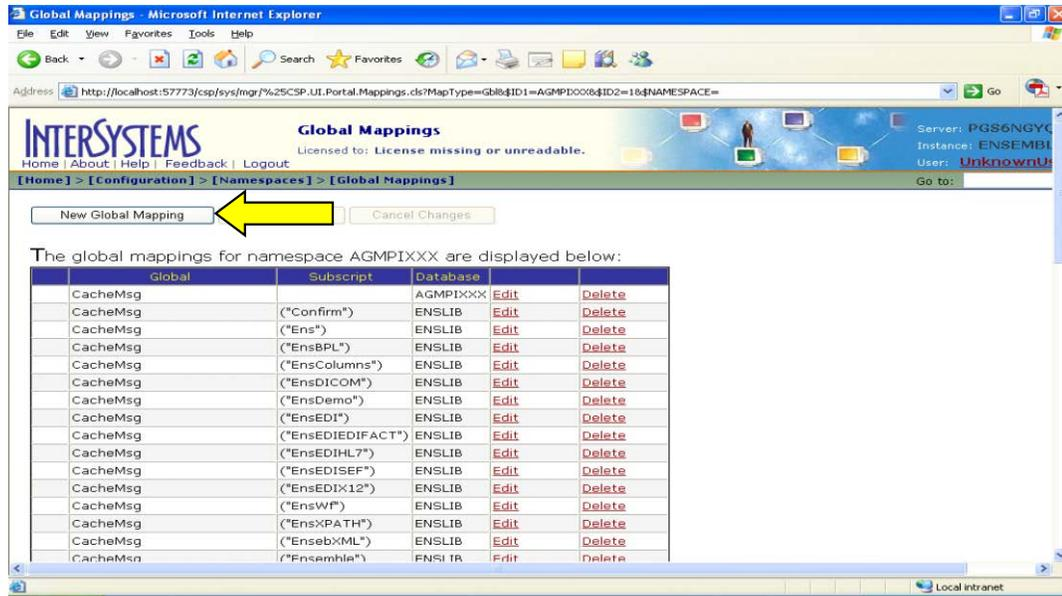

Figure 4-13: Creating a new global mapping on the **Global Mappings** page
2. On the **Global Mappings** page click **New Global Mapping** to display the **Global Mapping** dialog box, as shown in Figure 4-13.